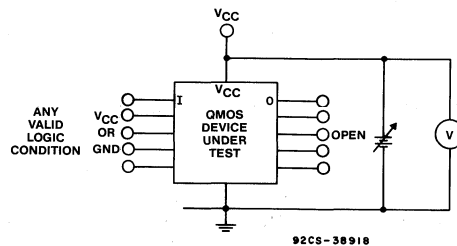

Figure 18: Test set-up for V_C over-voltage latch trigger
2. V_{CC} Triggered Latch-Up Test by Over-Voltage on V_{CC} (Fig. 18)